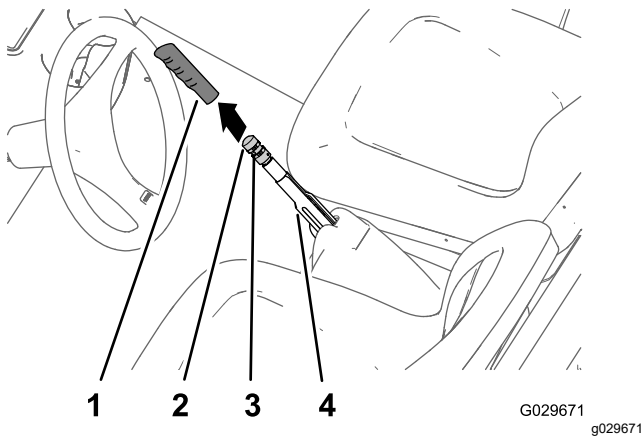

Figure 49
1. Remove the handgrip from the parking-brake lever (Figure 49).
2. Loosen the set screw securing the brake-adjustment knob to the parking-brake lever (Figure 49).
3. Rotate the brake-adjustment knob until you reach a force of 133 to 156 N (30 to 35 lbf) to engage the parking-brake lever (Figure 49).
4. Tighten the set screw and install the hand grip (Figure 49).
2. Loosen the set screw (Figure 49) securing the brake-adjustment knob to the parking-brake lever, disengage the parking brake, and loosen the brake-adjustment knob.
5. Rotate the brake-adjustment knob (Figure 49) until a force of 133 to 156 N (30 to 35 lbf) is required to engage the parking-brake lever.
- C. Rotate the brake-adjustment knob (Figure 49) until a force of 133 to 156 N (30 to 35 lbf) is required to engage the parking-brake lever.
- C. Rotate the brake-adjustment knob (**Figure 49**) until a force of 133 to 156 N (30 to 35 lbf) is required to engage the parking-brake lever.
- Tighten the set screw and install the handgrip (**Figure 49**).